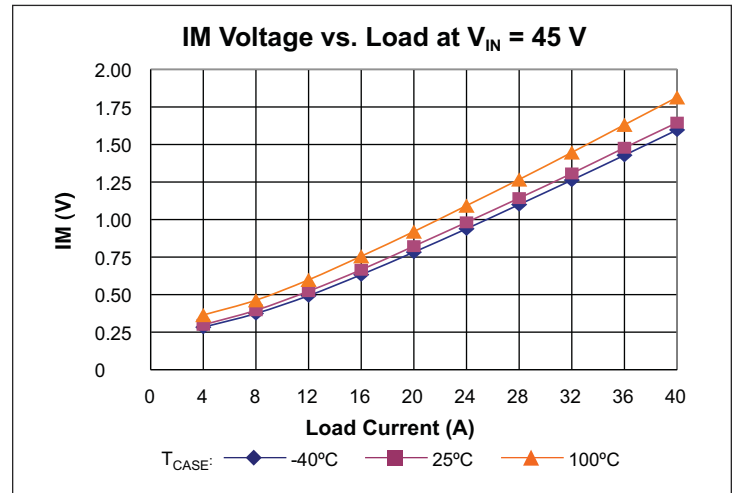

Figure 8 — IM voltage vs. load
**Current Monitor (IM)** pin provides a voltage proportional to the output current of the VTM module. The nominal voltage will vary between 0.3 V and 1.64 V over the output current range of the VTM module (See Figures 8–10). The accuracy of the IM pin will be within 25% under all line and temperature conditions between 50% and 100% load.